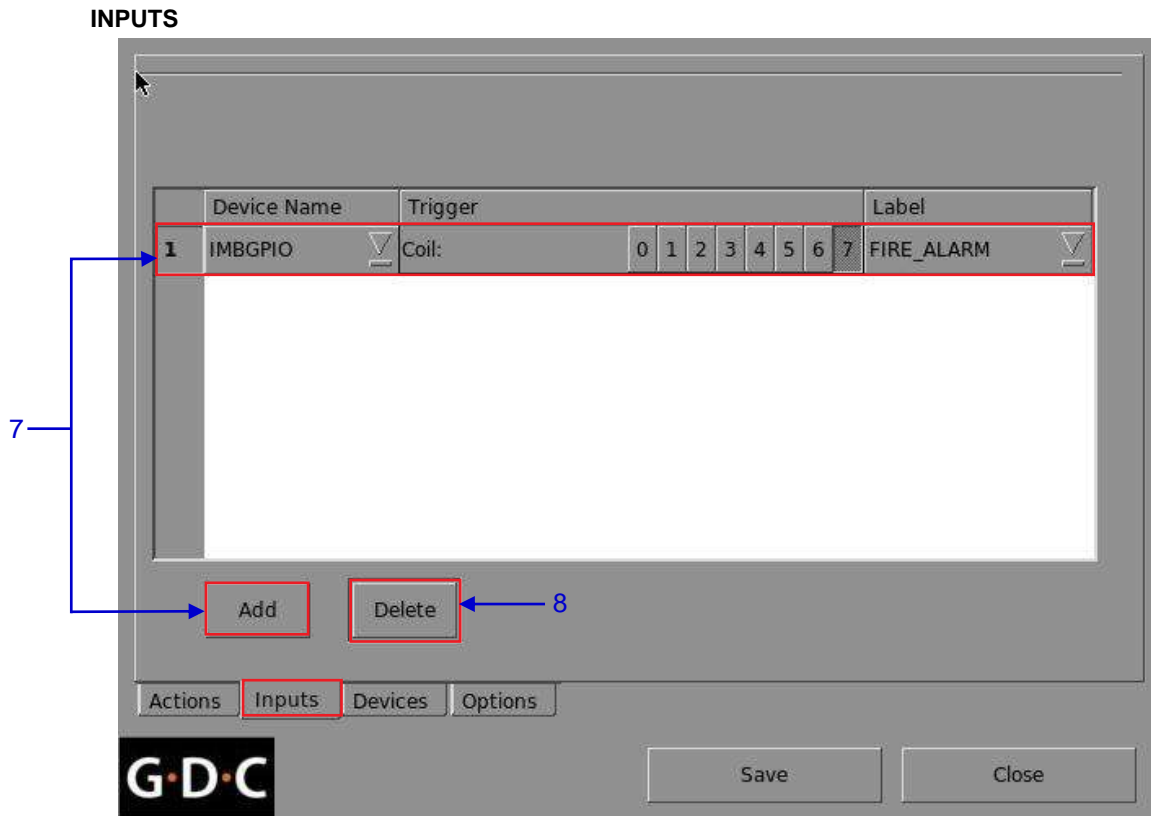

Figure 26 Inputs menu.
- 7** Press the **Inputs** button. A new window opens as seen in Figure 26. On the **Inputs** menu, press **Add** to enter the selected device.